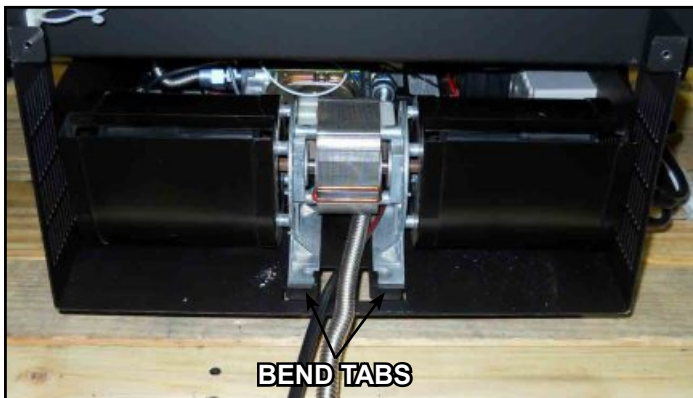

Figure 8.3 Fan Housing
1. From the rear of the appliance, slide the fan into the fan housing with the magnetic strips down and the rear discharge openings towards the front of the stove. (Note: The magnetic strips should straddle the gas line.) Bend tabs upward approximately 45 degrees. See Figure 8.3. It may be necessary to remove the on/off switch wires from the zip tie that holds the gas line as well as from the wire clasp located on the side of the fan housing in order to insert the fan without interference.